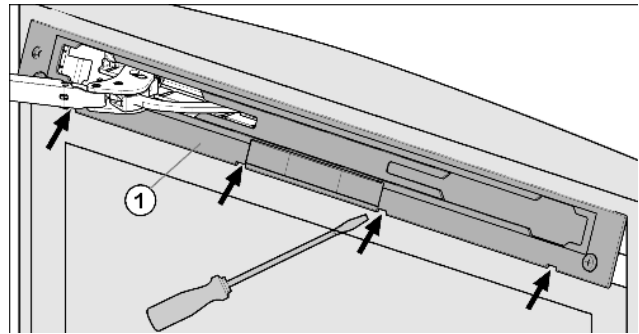

Fig. 21
- Release panel Fig. 21 (1) using slotted screwdriver and remove.